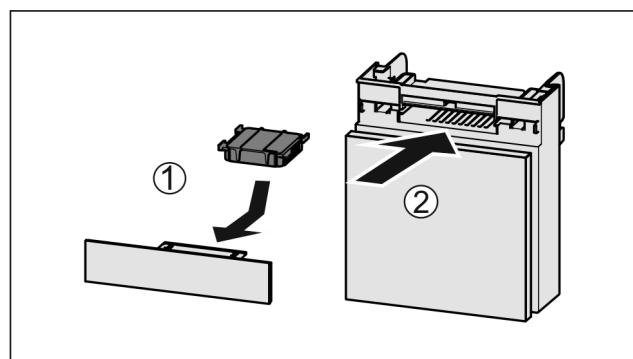

Fig. 139
- Insert the carbon filter as shown in the diagram Fig. 139 (1).
- Push the compartment in Fig. 139 (2).